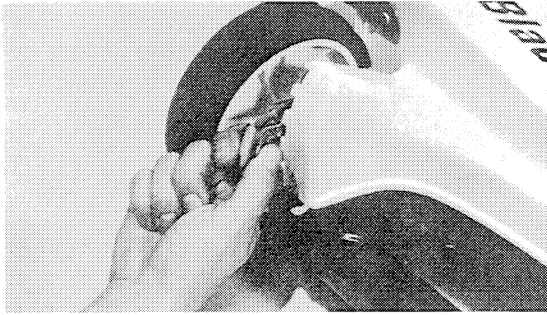

FIGURE 9A
- (7) DELUXE MOWERS ONLY — Adjust wheels for cutting height by squeezing together the two ends of the adjusting lever and placing it in the proper slot for cutting height desired (Figures 9A and 9B).